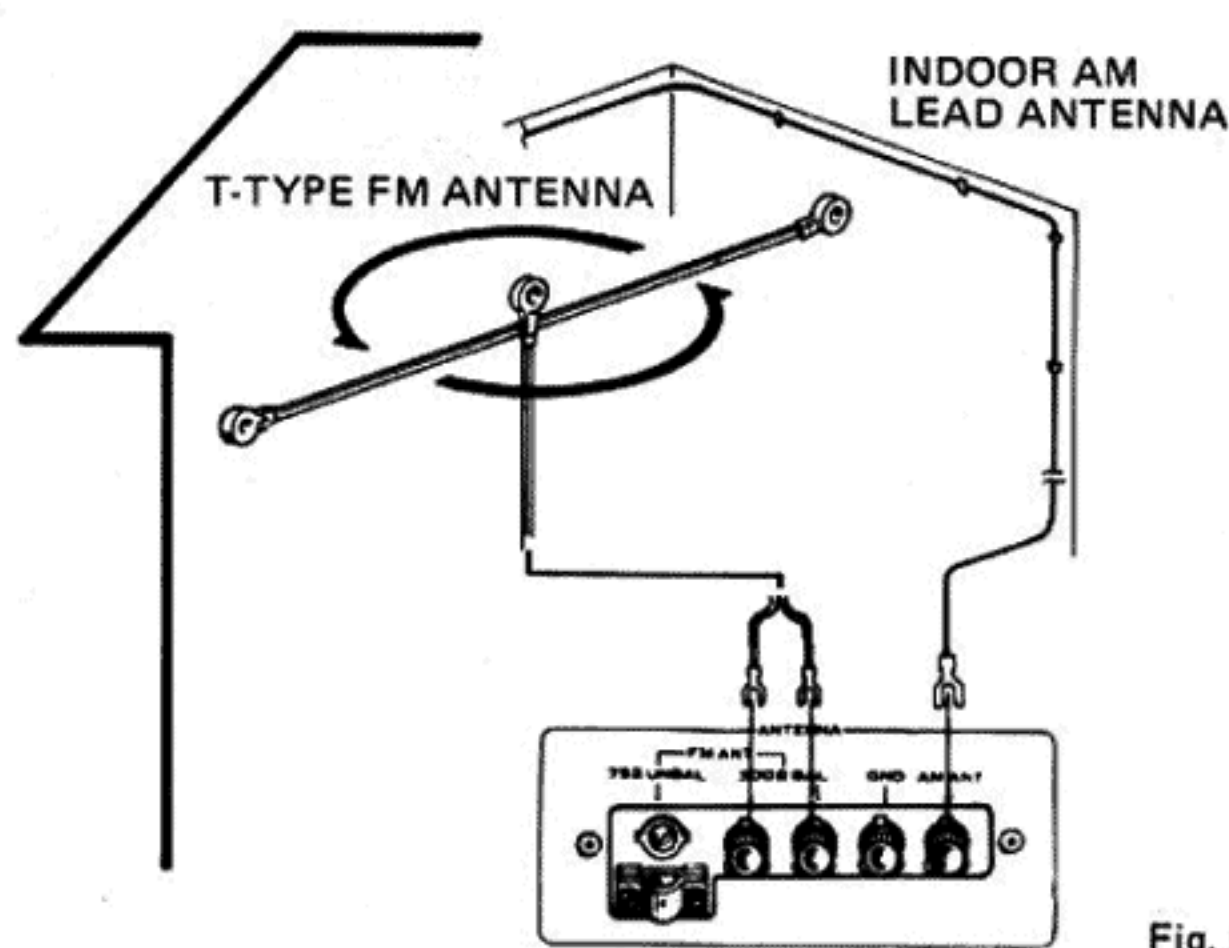

Fig. 5
- Use vinyl-covered wire as shown in Fig. 5 for the indoor lead antenna.